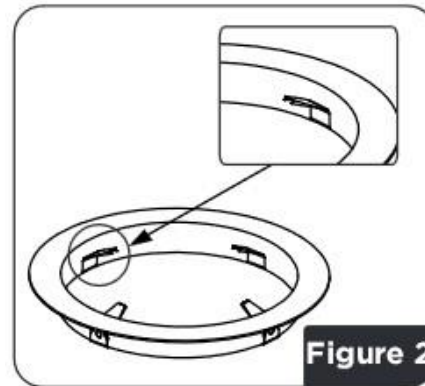

Figure 2
5. For new construction, mount the four retaining clips on the mounting frame equidistant around the collar (Figure 2).